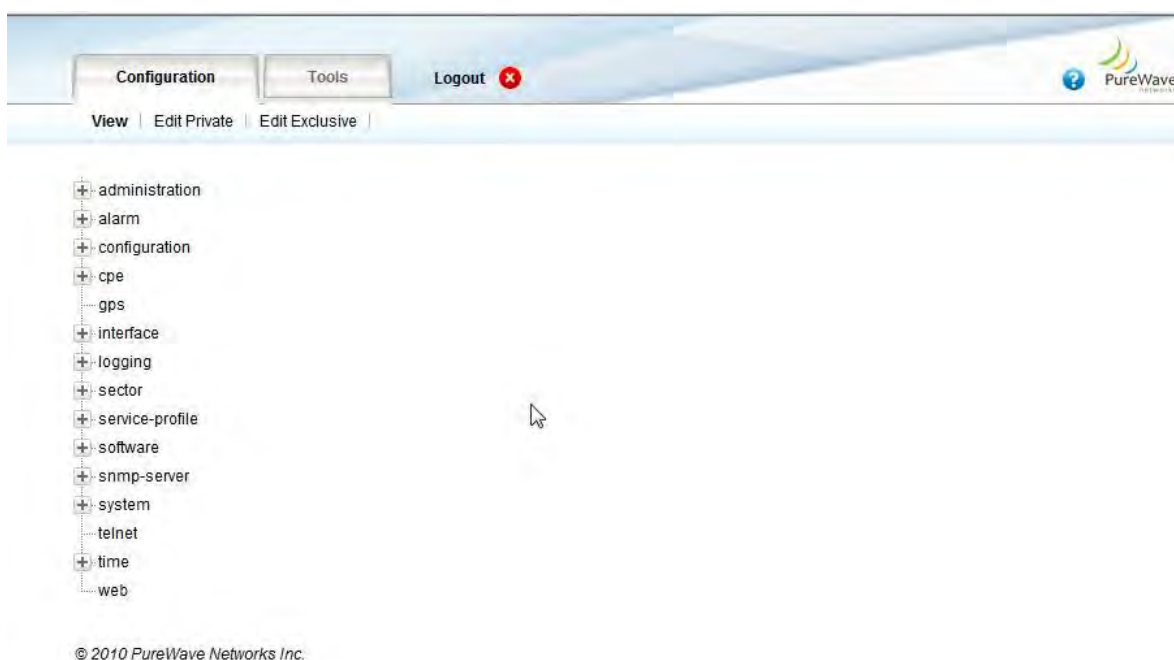

Figure 9 Main Web GUI Interface Screen
4. After login, the User will be presented at the Main Web GUI Interface Screen (Figure 9). This will be the starting position for all subsequent configurations.
- **View Mode:** Read-only access of all parameters. This is the default mode upon initial log in (refer to Figure 9).